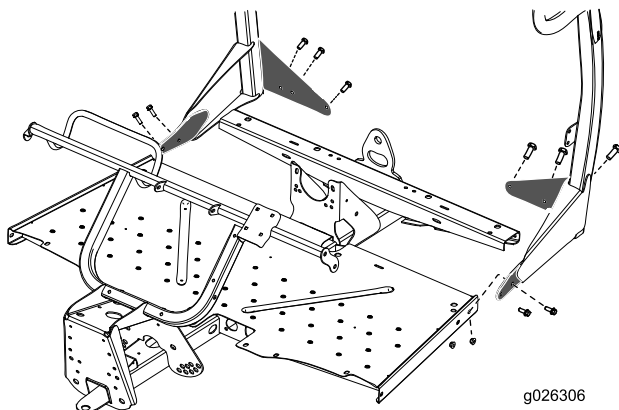

Figure 6
1. Position the ROPS onto the machine as shown in Figure 6, aligning the mounting holes at the sides and rear.
3. Secure the ROPS to the sides of the floor plate with the remaining 4 bolts (3/8 inch) and 4 nuts (3/8 inch) (Figure 6).